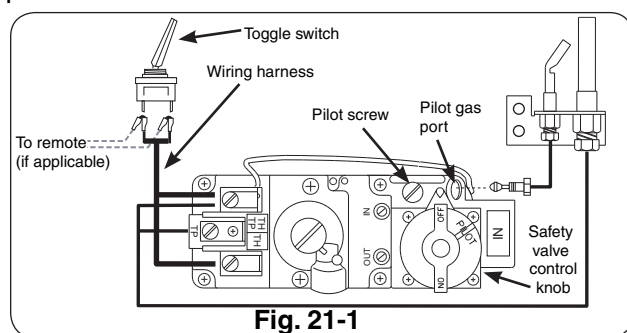

Fig. 21-1
To read the safety valve control knob (Fig. 21-1), read the marking nearest the teardrop-shaped metal pointer.
- b. If adjustment is necessary (Fig. 21-1), turn the gas adjustment screw counterclockwise ↻ to increase the pilot flame, or clockwise ↻ to decrease the pilot flame.